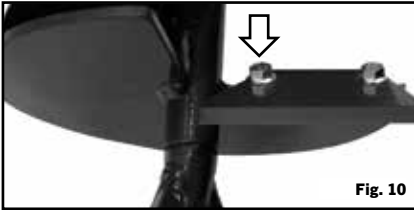

Fig. 10
3. Remove the mounting hardware (bolts and nuts), and take off the earth blade (see Figure 10).